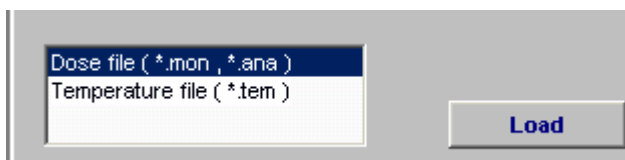

Fig.7.2. Frame “Load”.
- Choose the file in the frame **“Load”**. (See Fig.7.2).